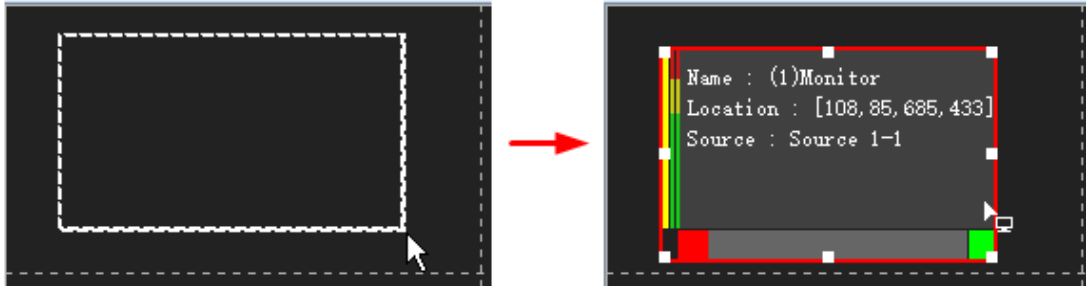

Figure 3.5-72 Add a Monitor Window
- **Element with any size:** click the left mouse button to decide the starting coordinate of the top left corner, hold the button down and draw a rectangle, then release the left mouse button, it will add a monitor window, as shown in **Figure 3.5-72**: